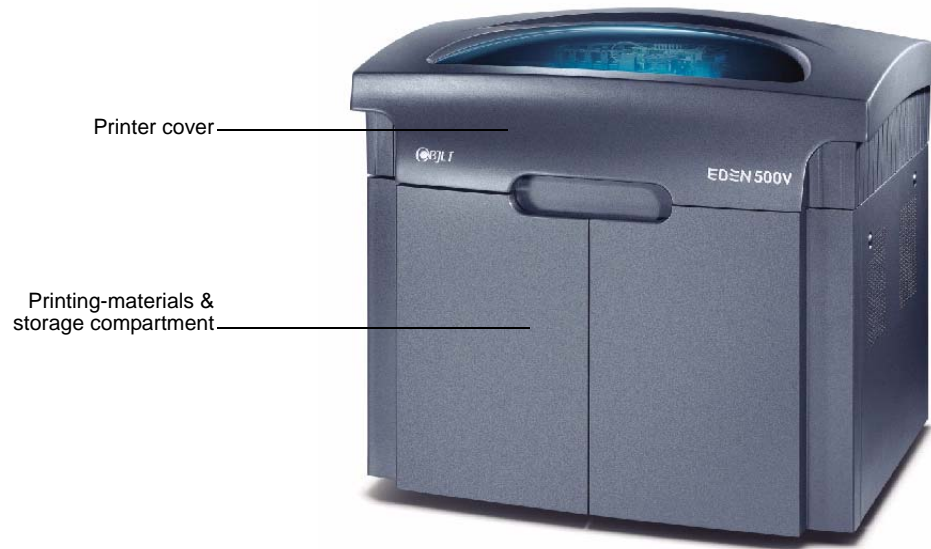

Figure 7-1: The Eden500 3-D Printer
1. On the front of the Eden printer (see figure 7-1), pull open the doors of the storage compartment.